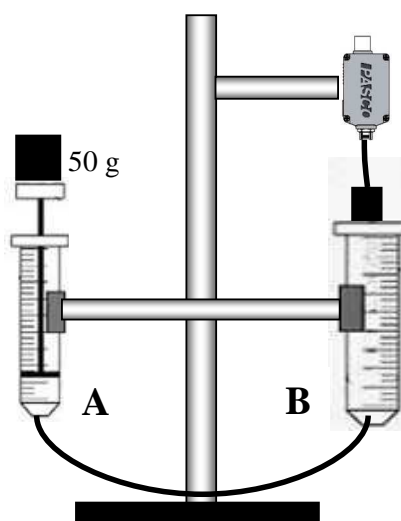

Fig. 5. A mass is added to syringe A.
7. Click on the Start icon, and place a 50 g mass on top of piston A as shown in Figure 5. Once you are convinced that the piston has reached equilibrium without friction, record the pressure below.